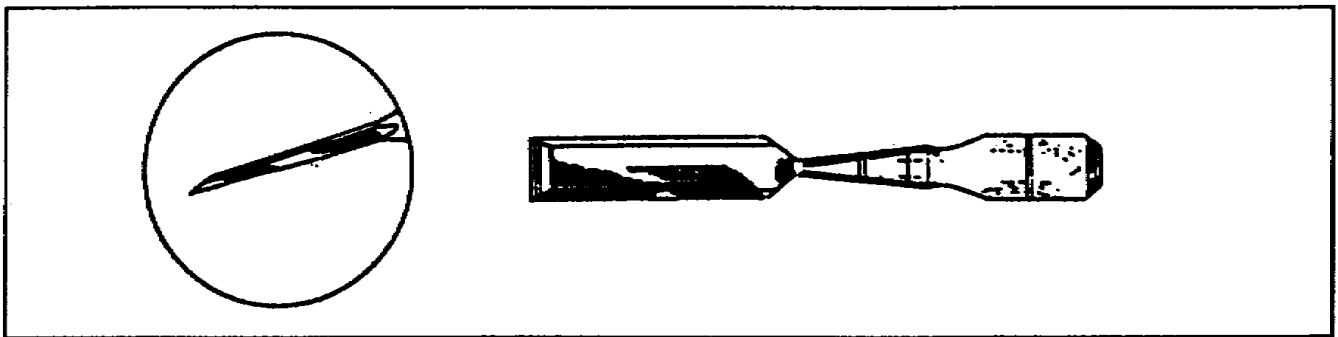

Figure 2-17. Paring chisel
(1) **Paring Chisel.** A paring chisel (Figure 2-17) is used for shaping and preparing large surfaces. It is used with a steady sustained pressure of the hand and should never be driven with a mallet.